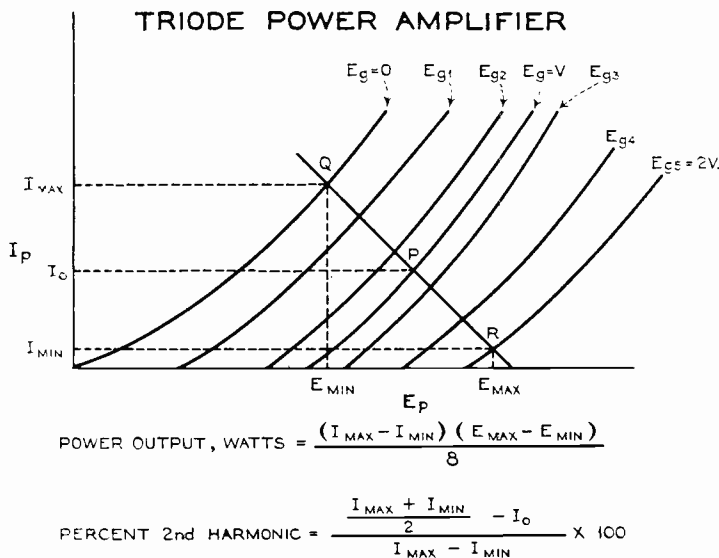
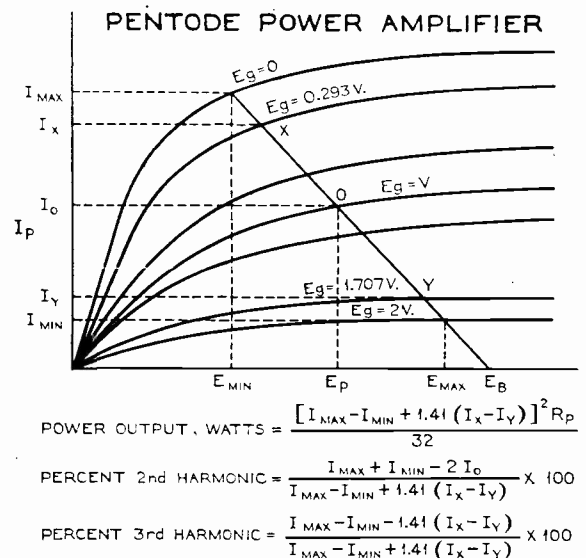

Fig. 1
Fig. 2
2. POWER AMPLIFIERS: Maximum undistorted output is obtained from triodes when the load equals $2 R_p$, for pentodes when the load is approximately $1/5$ th R_p . The performance as a single ended class A amplifier can be predicted from the $E_p - I_p$ curves as shown in the example of Figure 1. Draw the loadline through the chosen operating point at the slope corresponding to the a.c. load (the d.c. resistance is usually negligible). For minimum distortion, the segments of the load line, PQ and PR should be equal. When the ratio of their respective lengths is 9 : 11, the harmonic distortion is five per cent.
In Figure 1 maximum power output and harmonic distortion is given in the equation. Figure 2 gives the same data for pentodes. The gain of amplifiers is often given in decibels. The decibels is a logarithmic unit, expressing the ratio between two magnitudes of power. Mathematically—